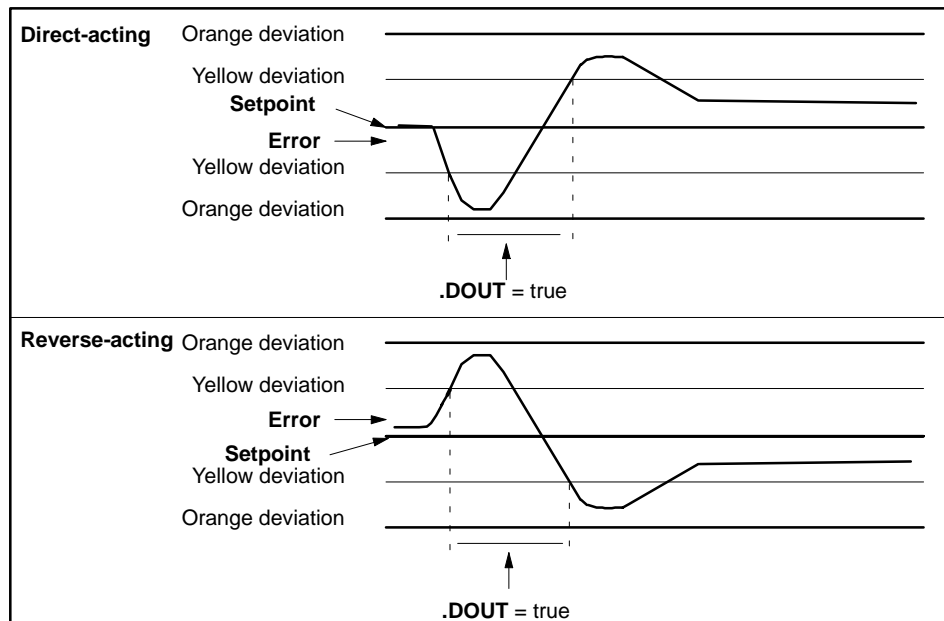

Figure 2-12 Direct and Reverse Acting On/Off Block
- If the controller is direct-acting, the output is set to true when the error is beyond the low yellow deviation. The output remains true until the PV passes through the positive yellow deviation as shown in Figure 2-12.
- If the controller is reverse-acting, the output is set to true when the error is beyond the high yellow deviation. The output remains true until the PV passes through the negative yellow deviation as shown in Figure 2-12.